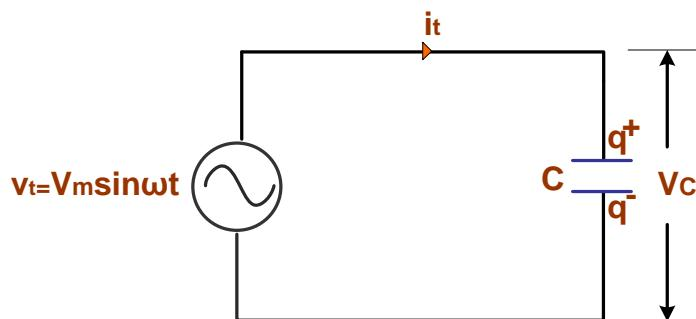

Figure 2.19 Pure Capacitor Connected AC Supply
- The Fig. 2.19 shows a capacitor of capacitance C farads connected to an a.c. voltage supply $v_t = V_m \sin \omega t$.
- As shown in the Fig. 2.19 voltage source